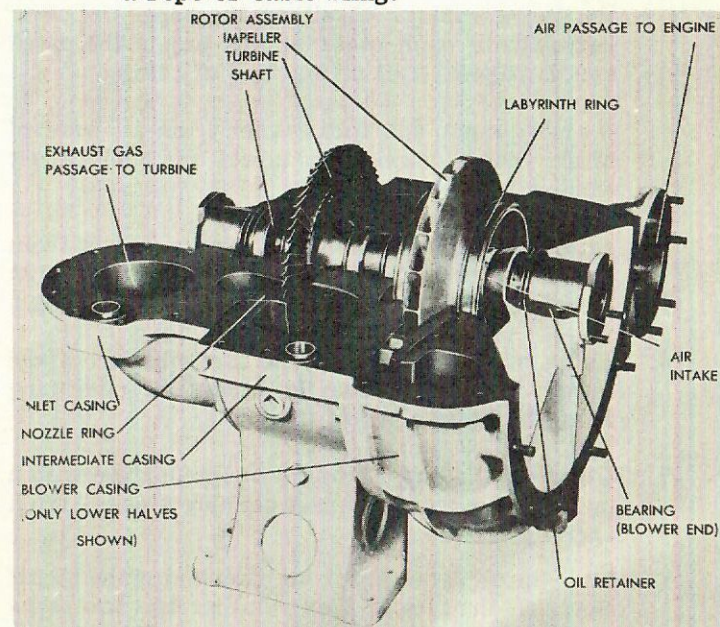

FIG. 53-1
2. Remove bearing end covers, Fig. 53-1. Note that the turbine end cover has a long stem attached to it. This stem must not be bent or damaged in any way.